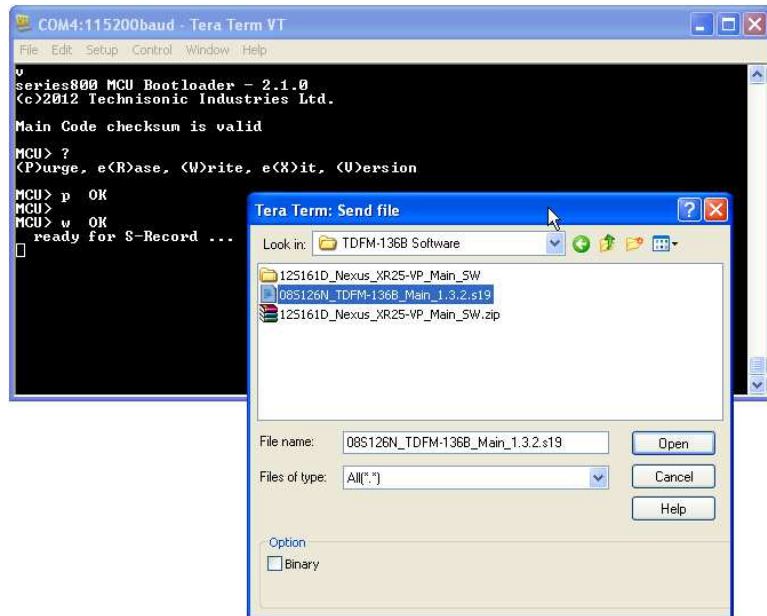

FIGURE 14: Browsing for New Firmware File
- l) On the terminal top bar select “File”, then select “Send File”. The file browse window should pop up. (See Figure 14)